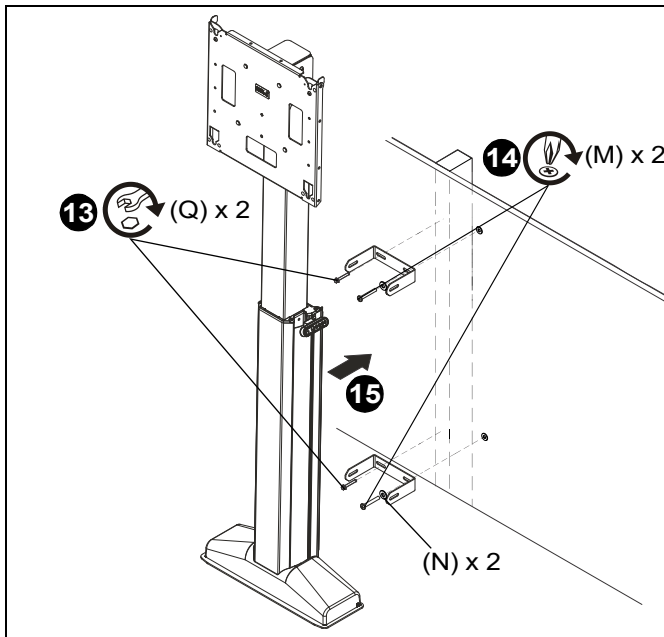

**Figure 16**
10. Snap off plastic straps on anchor at wall by pushing side to side, snapping off straps level with flange of plastic cap. (See Figure 16)